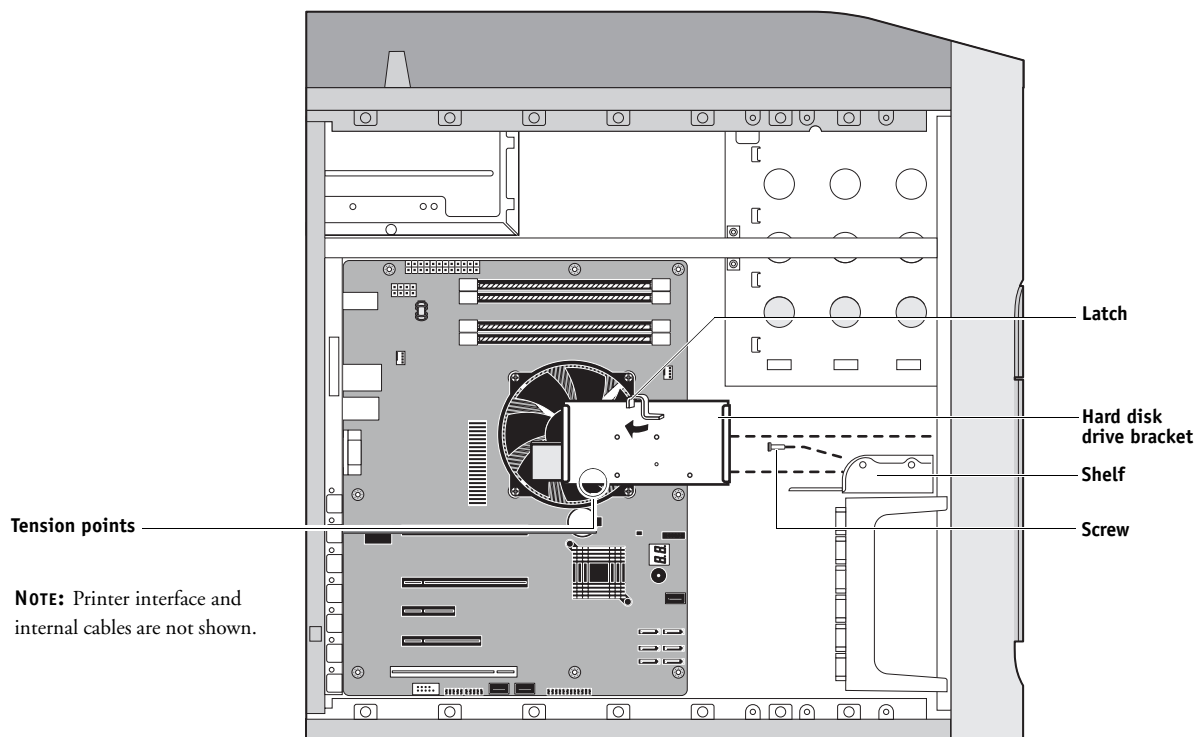

FIGURE 19: Removing/replacing the hard disk drive bracket
- 6 Slide the hard disk drive bracket off the shelf and lift it out of the chassis (see Figure 19).
2 Position the hard disk drive inside the hard disk drive bracket and align the front-most mounting holes on the hard disk drive with the four holes in the bracket (see Figure 19 on page 54).